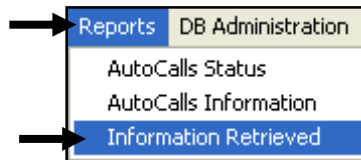

Fig. 9.6
- 1) Select the **Reports** menu and then select **Information Retrieved** (Fig. 9.6).